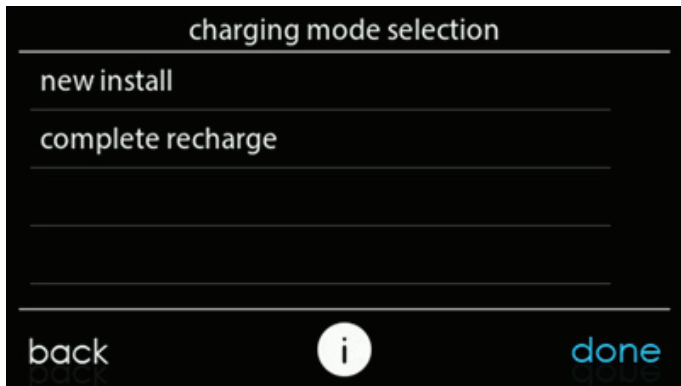

Fig. 19 – Charging Mode Selection A200037
12. If this is a new install, i.e. the ODU is factory charged, then select "new install" in the "charging mode selection" screen (see Fig. 19)